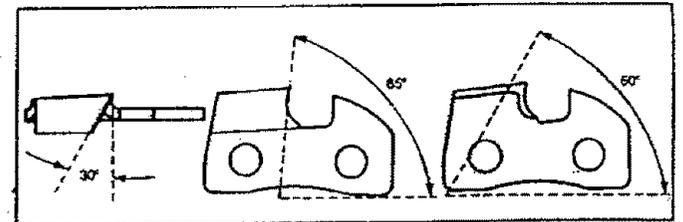

Figure 41
- f.) File 91SG chain to meet specifications shown in Figure 41.
Maintain the proper hook angle according to the manufacturer's specification for the chain you are using. Too much hook angle will increase the chance of kickback which can result in serious personal injury. Figures 41 and 43.